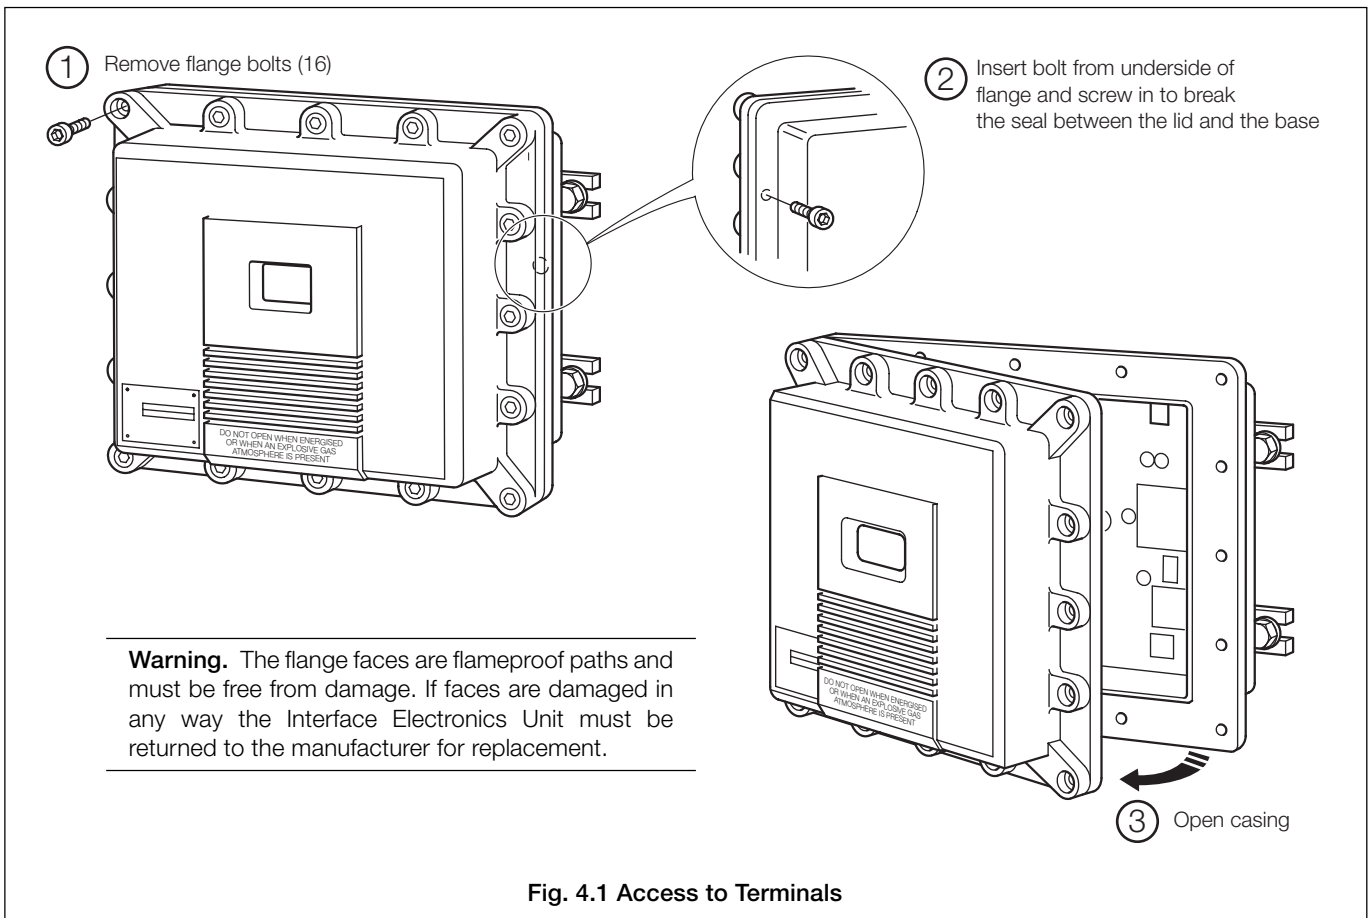

Fig. 4.1 Access to Terminals
4.2 Access to Terminals – Fig. 4.1